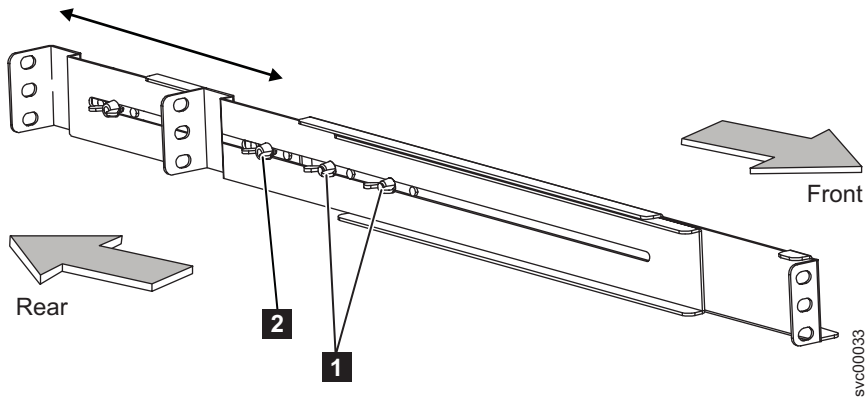

Figure 326. Adjusting the rail depth on the 2145 UPS-1U
4. Loosen the assembly wing nuts (**1** in Figure 326 on page 316) on both rail assemblies and adjust the rail size to the depth of your rack. After you adjust the depth, tighten the assembly wing nuts as much as possible while still allowing some movement.